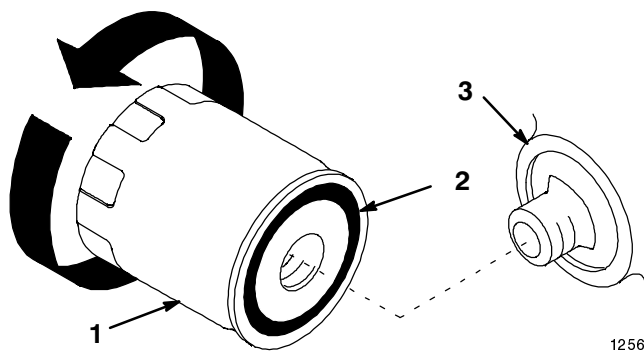

Figure 36
2. Remove the old filter and wipe the filter adapter (Fig. 36) gasket surface.
3. Apply a thin coat of new oil to the rubber gasket on the replacement filter (Fig. 36).
4. Install the replacement oil filter to the filter adapter. Turn the oil filter clockwise until the rubber gasket contacts the filter adapter, then tighten the filter an additional 1/2 to 3/4 turn (Fig. 36).